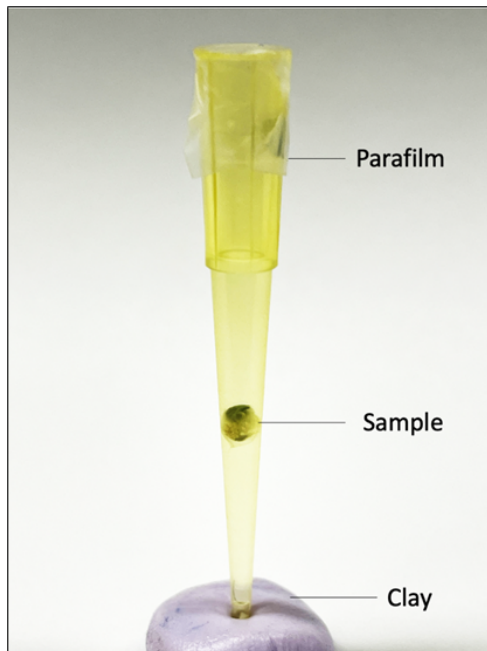

Fig 1. Gravid *D. magna* sample in 200 mL micropipette tip for imaging.
- 11 Seal the opening of the pipette tip with parafilm M to avoid evaporation and the sample is ready to be scanned (Fig 1).